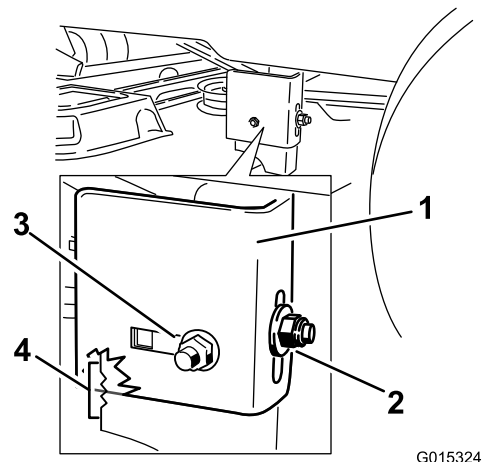

Figure 50
10. Loosen the side locking nut on the hanger bracket just enough to allow the hanger to be adjusted (Figure 50). Use the notches on the welded bracket to measure the amount of adjustment. Each notch surface is
11. Stop the deck at the adjusted position and tighten the rear locking nut on the hanger bracket to hold the new position (Figure 50). Tighten the side locking nut on the hanger bracket.